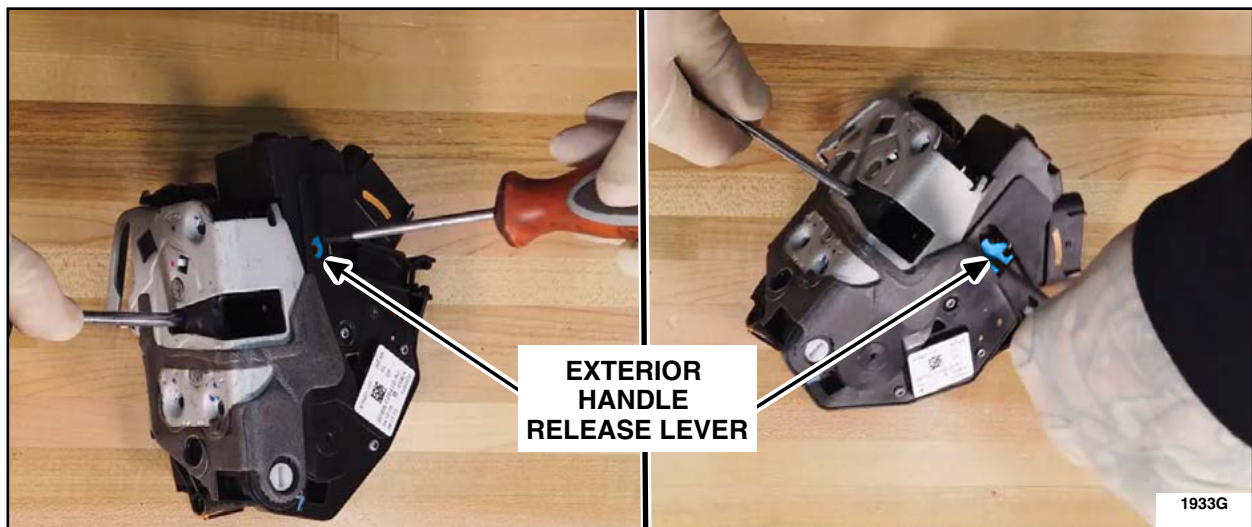

FIGURE 7
5. After the latch has been placed in the latched position, take a second screwdriver and actuate the exterior handle release lever. See Figure 7.